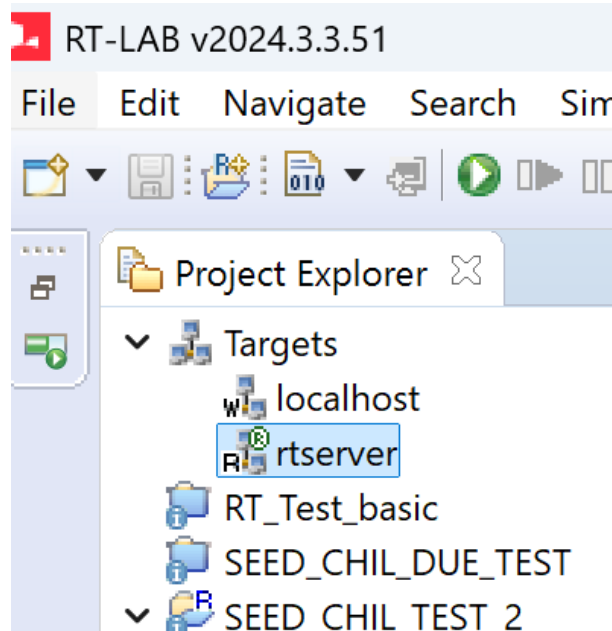

Figure 5: Active localhost/rtserver
- Ensure that both `localhost` and `rtserver` (Figure 5) are activated. Refresh server if necessary (right click then click refresh).